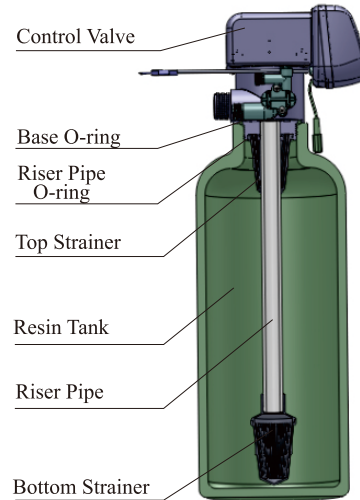

Figure 1-1
- a. As the Figure 1-1 shows, select the riser pipe with 26.7mm OD, glue the riser pipe to the bottom strainer and put it into the resin tank, cut off the exceeding pipe out of tank top opening and make external rounding.